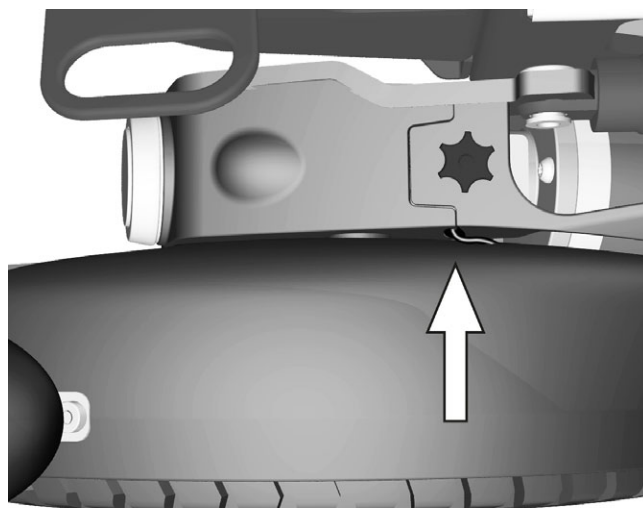

Figure 15. On wheelchairs with lights, pull the cable out of the slot to reveal the cable connector. Divide the connector to unplug the front lights.
1. On wheelchairs with lights, pull the cable out of the slot to reveal the cable connector. Divide the connector to unplug the front lights. See fig. 15.